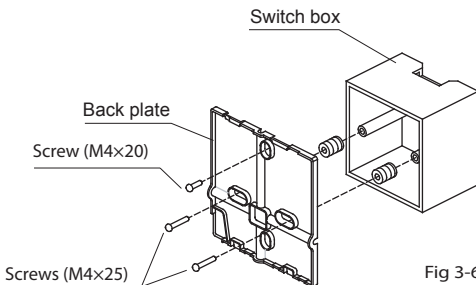

Fig 3-6
- For flush-mounting, fasten the back plate on the switch box with 2 screws (M4×25) and fasten it on the wall with 1 screw (M4×20). (Fig.3-6)